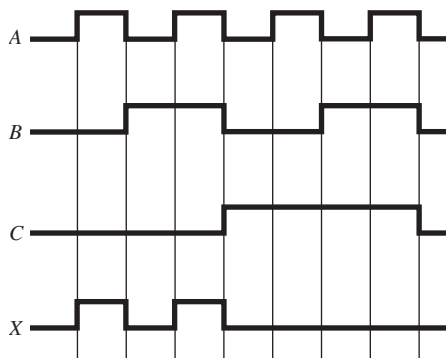

Figure 78
- (a) Write the simplified equation that will produce the output waveform at X , given the inputs at A , B , and C shown in Figure 78.